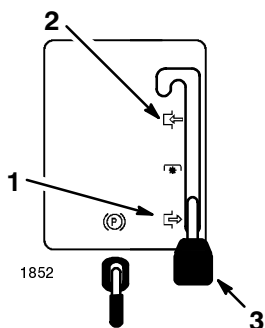

Figure 7
3. Move the PTO to Disengaged (Fig. 7).